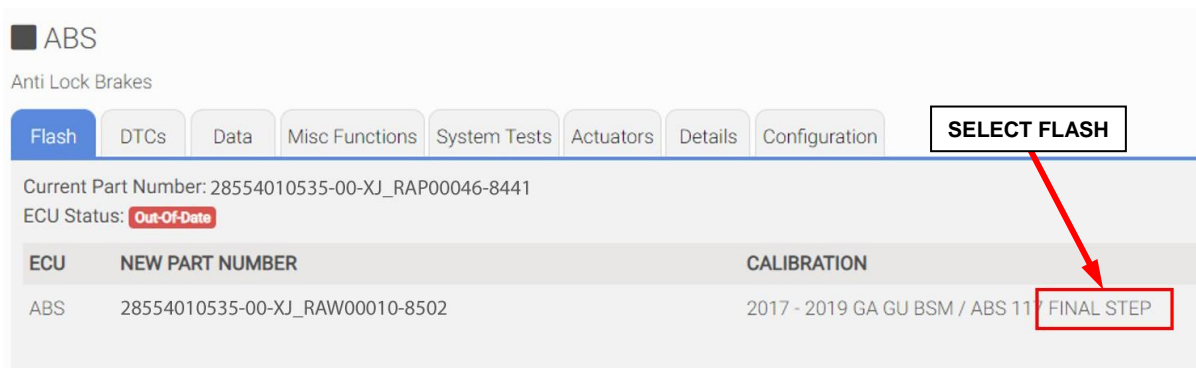

Figure 30 – Flash ABS / BSM “FINAL STEP”
11. From the ABS flash tab, select the ABS flash “**FINAL STEP**” and proceed with the reprogramming procedure (Figure 30).